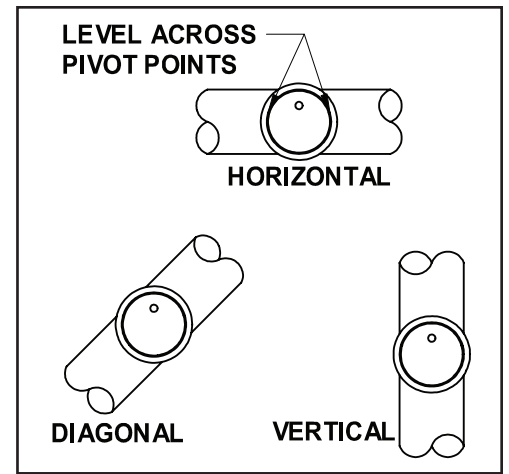

Figure 5
4. Mount the VRV assembly onto the tee and fasten with a screw and nut in collar tabs. To ensure proper operation, check the gate for being level across the pivot points and plumb. (See Figure 5)